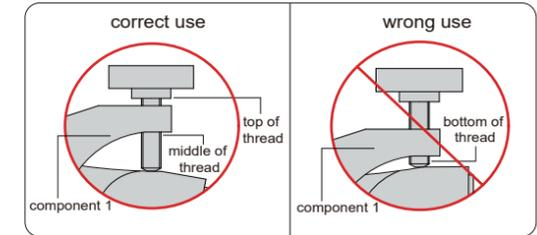

fig.2
- When working, adjust the fine adjustment screw so that component 1 is between the top of thread and the middle of thread, to increase the elasticity of head, do not let component 1 be at the bottom of thread(fig.2).